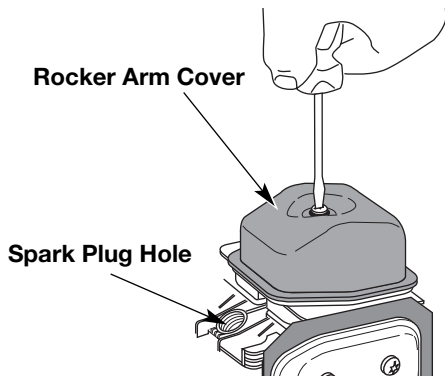

Fig. 65
- Clean dirt from around the rocker arm cover. Remove the screw holding the rocker arm cover with a large flat blade screwdriver or Torx T-25 bit (Fig. 65). Remove the rocker arm cover and gasket.
- The piston is at the top of its travel while looking in the spark plug hole (Fig. 65)